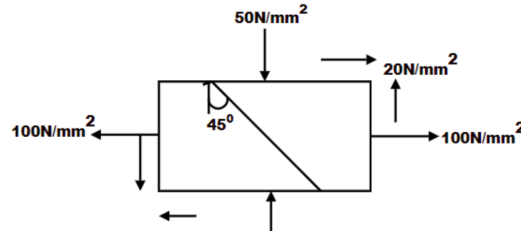

Figure 5
- (b) At point in a stressed body, the stresses act as shown in Figure 5. Calculate the values of [7M]